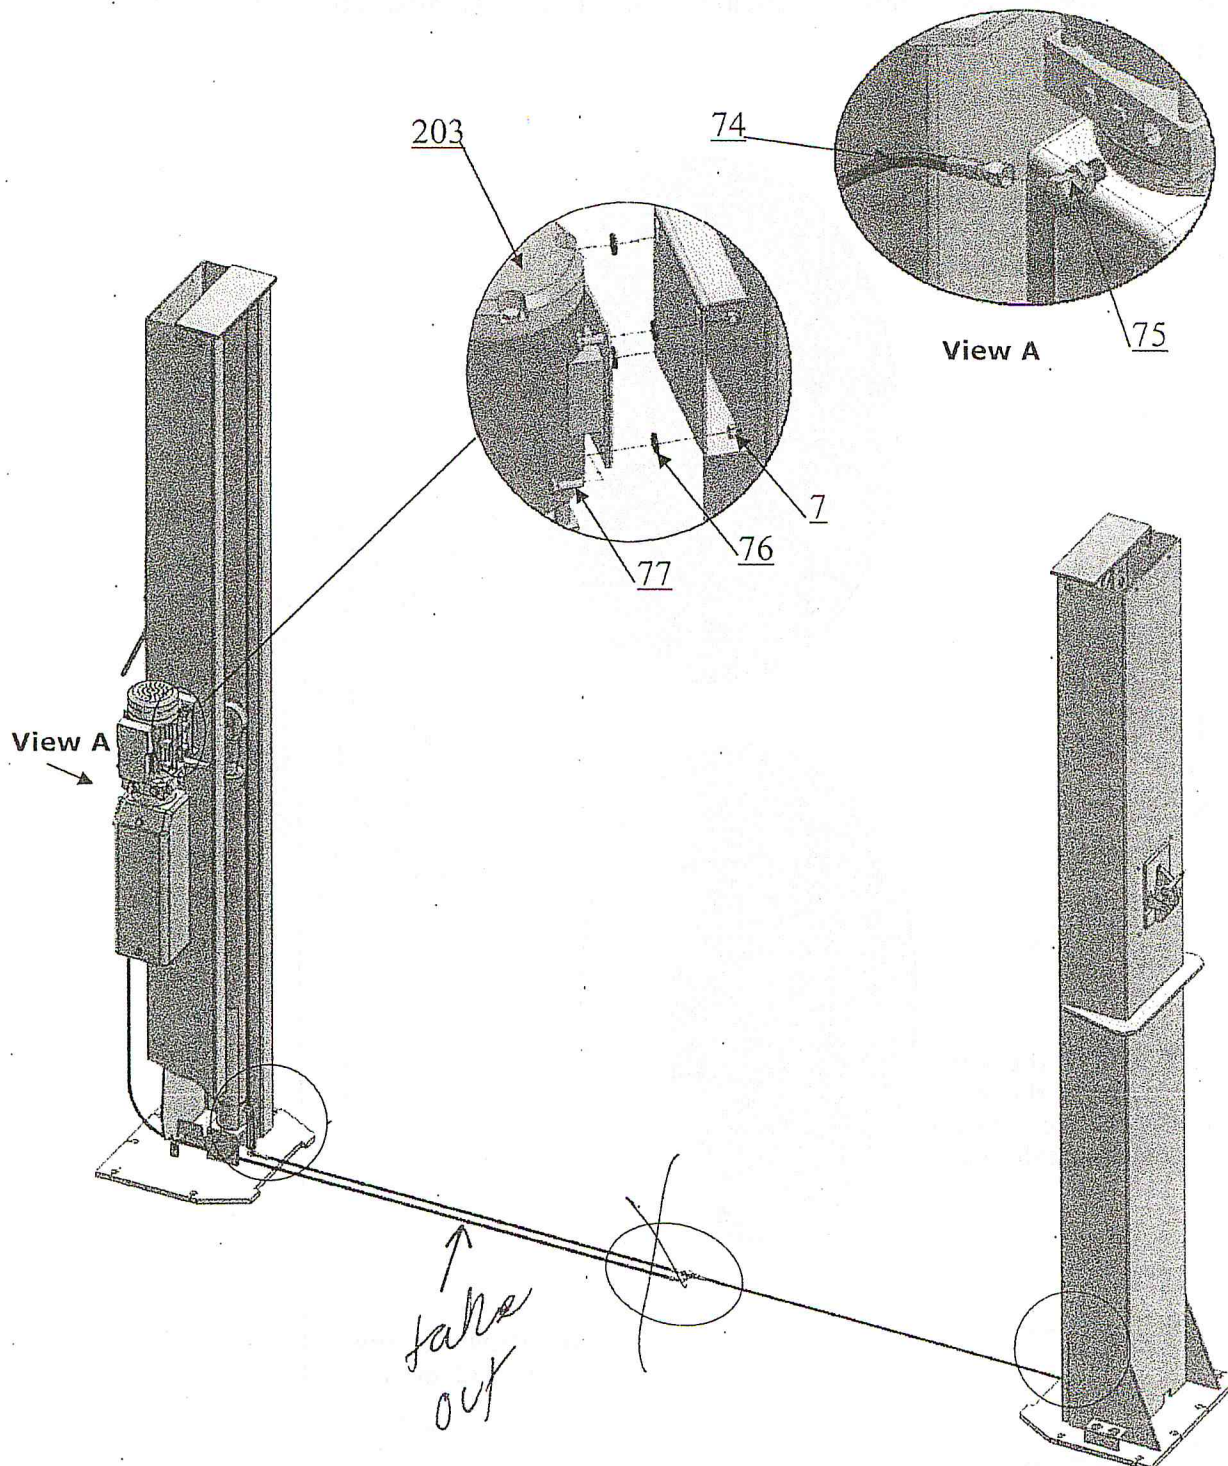

Fig. 23
K. Install the hydraulic power unit and oil hose assembly. (See Fig. 23).